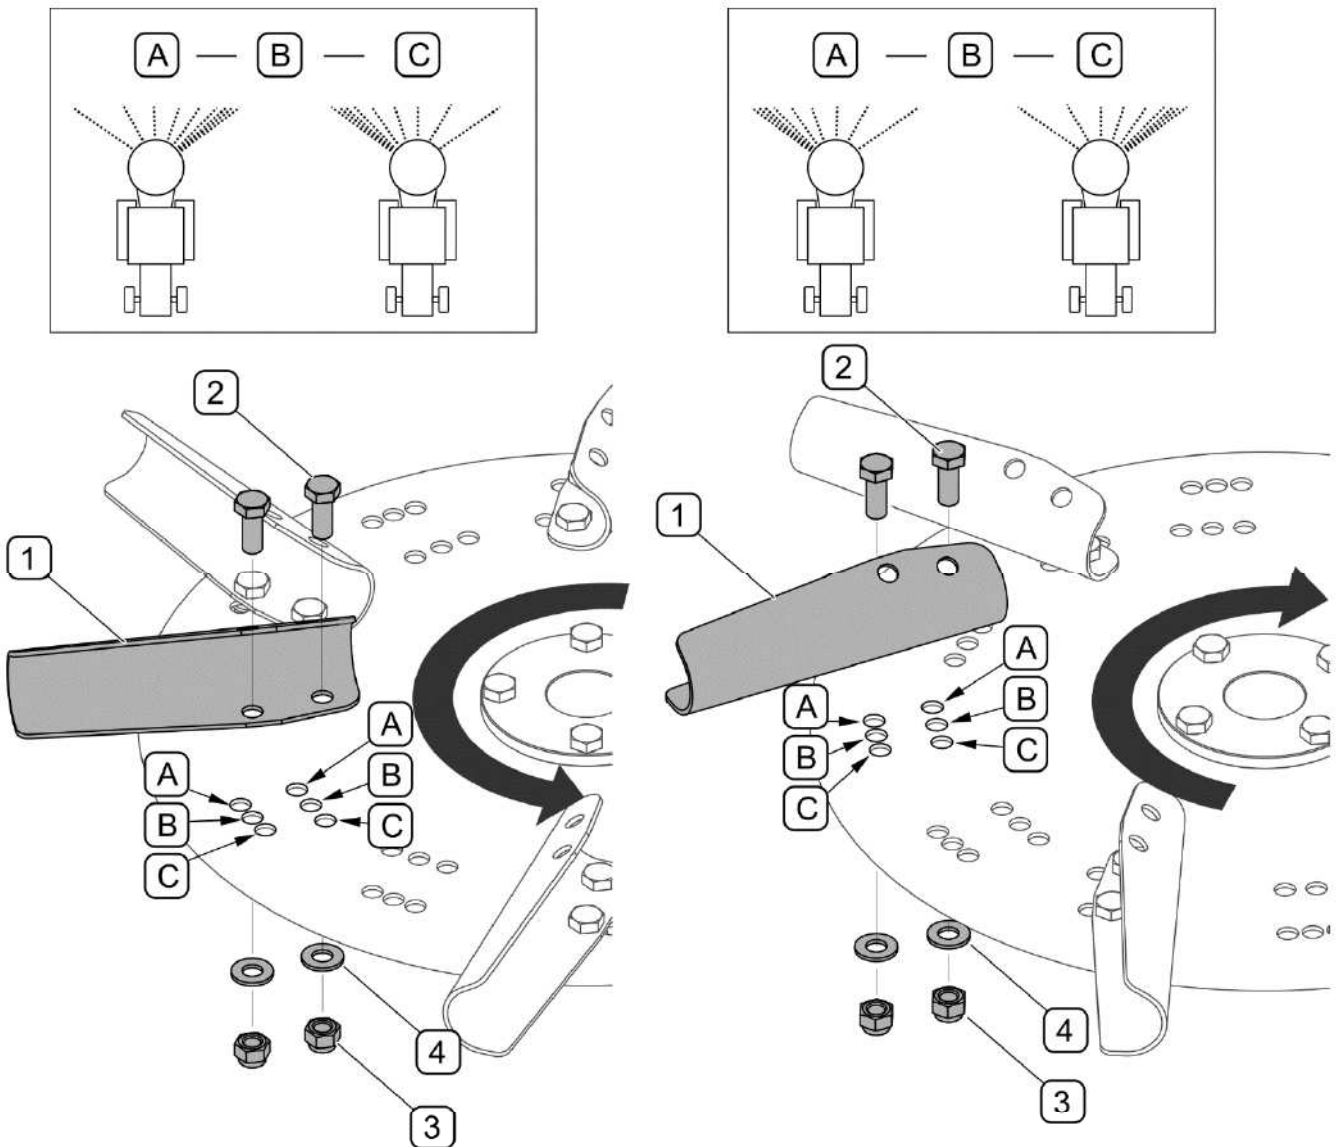
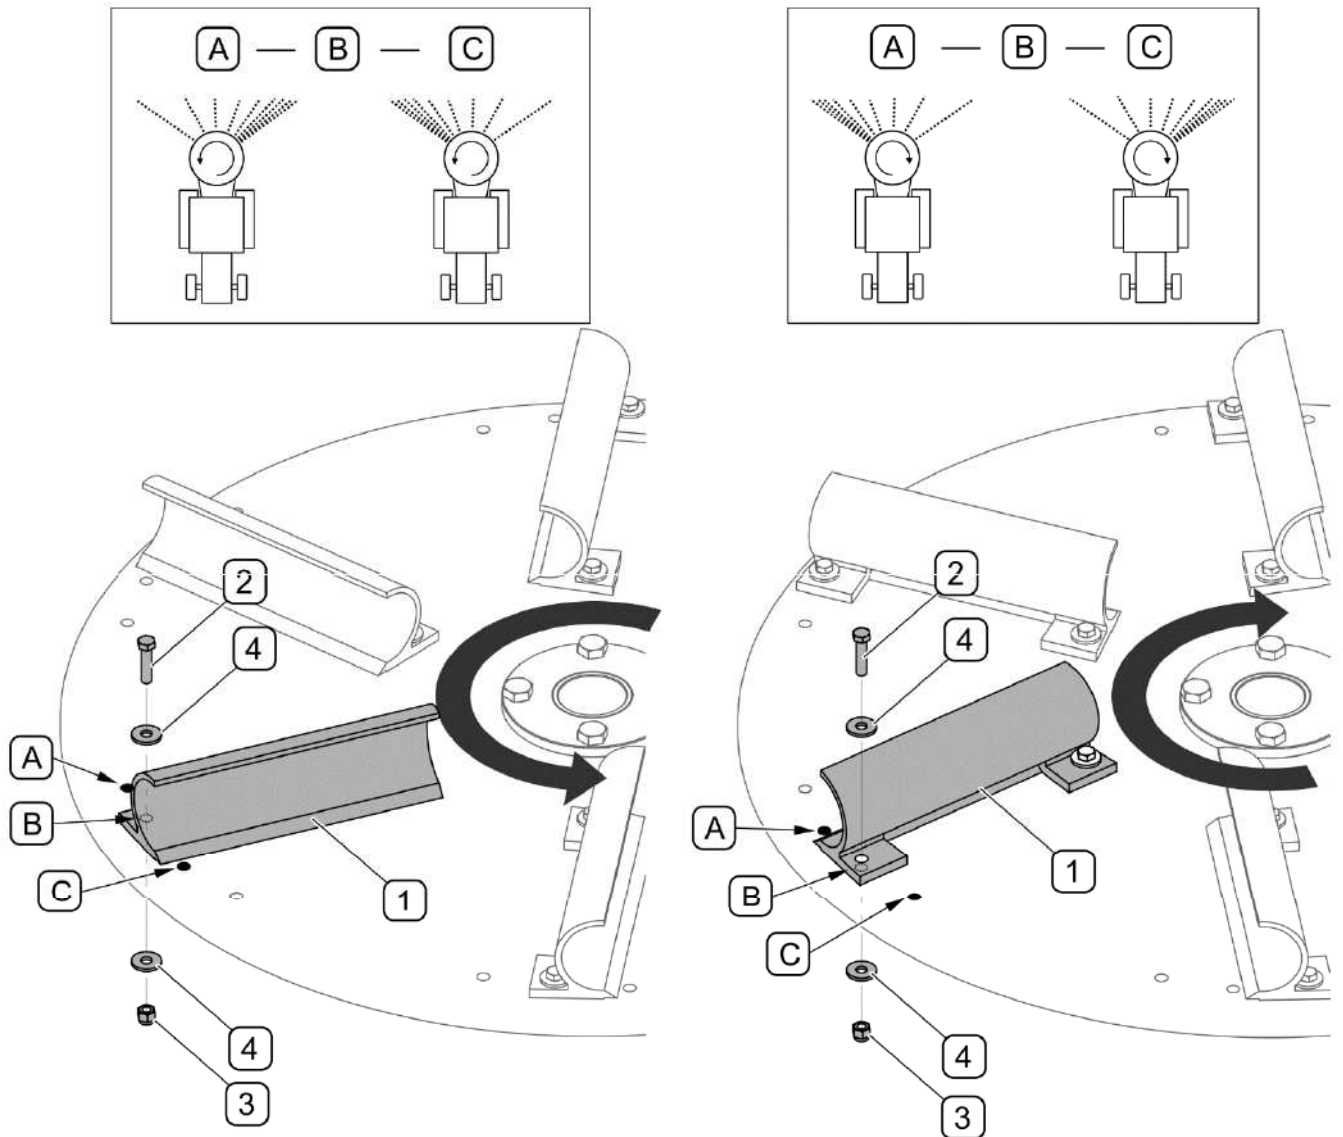

FIG. 4.8 Adjusting uniformity of spreading (FD1-M03 / M05)
FIG. 4.9 Adjusting uniformity of spreading (FD1-M03L / M05L)
Uniformity of spreading is adjusted (FIG. 4.8 or FIG. 4.9) by changing the position of blades on spreading disc in the following manner:
- In FD1-M03 / M05 fertilizer spreaders, undo nuts (3), remove washers (4) and take out both bolts (2) fixing a blade (FIG. 4.8)
- In FD1-M03L / M05L fertilizer spreaders, undo nut (3), remove washer (4) and take out bolt (2) (FIG. 4.9)
- Shift blade (1) in such a manner as to install bolts (2) in proper holes on the disc.
- Install washers (4) and tighten nuts (3).
In case of FD1-M03 / M05 fertilizer spreaders with spreading disc rotating to the left, if blades are moved from holes (A) to (C), the amount of fertilizer spread is increased in the left zone of the spreading area and simultaneously decreased in the right zone (FIG. 4.8).
In case of FD1-M03 / M05 fertilizer spreaders with spreading disc rotating to the right, if blades are moved from holes (A) to (C), the amount of fertilizer spread is increased in the right zone of the spreading area and decreased in the left zone (FIG. 4.8).
In case of FD1-M03L / M05L fertilizer spreaders with spreading disc rotating to the left, if blades are moved from holes (A) to (D), the amount of fertilizer spread is increased in the left zone of the spreading area and decreased in the right zone (FIG. 4.9).
In case of FD1-M03L / M05L fertilizer spreaders with spreading disc rotating to the right, if blades are moved from holes (A) to (D), the amount of fertilizer spread is increased in the right zone of the spreading area and decreased in the left zone (FIG. 4.9).